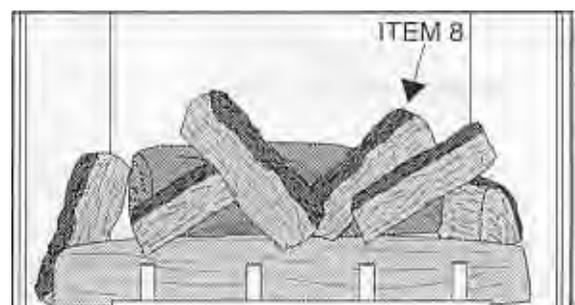

Figure 68
8. See Figure 68. The final log to be placed is Item 8. Position this log with the bark to the left. The front end of the log lays on the Front Log, behind the right edge of Item 7. The right end of Item 8 is then placed on the right edge of the back log.